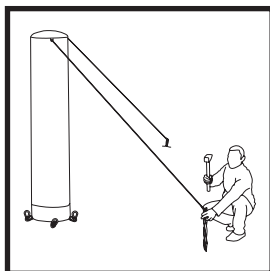

Fig. 4
7. Clip the other end of the line to the torsion anchor and hammer it into the ground. Stretch the rope. (Fig. 4). Repeat for each rope.